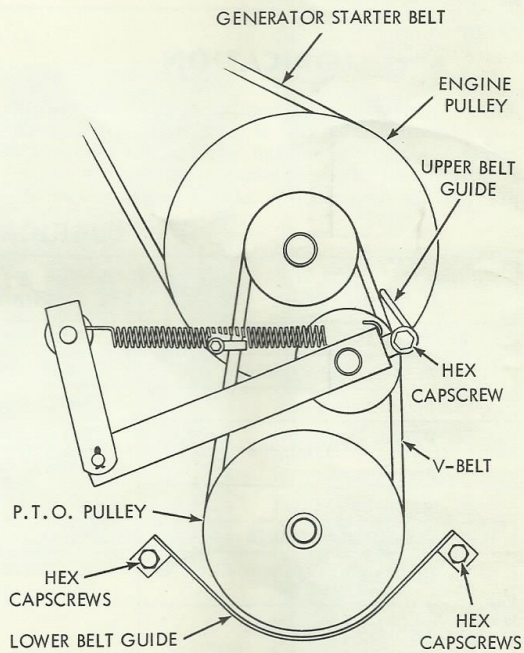

Figure 18
3. With the P.T.O. lever still in the ON position, loosen the hex capscrew which secures the upper belt guide shown in Figure 18. Adjust upper belt guide for a 1/8 inch clearance between belt and belt guide. Tighten hex capscrew securely.
P.T.O. BELT ADJUSTMENT (See Figure 18.)